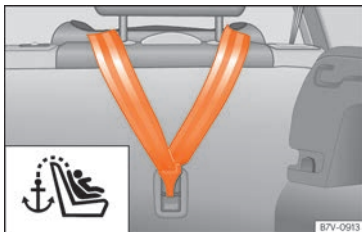

Fig. 31 Back of the rear seats: Top Tether securing rings.
Child seats with a Top Tether system are fitted with an additional strap for fastening to an anchor point in the vehicle. This anchor point is located on the rear of the rear seat backrest » **Fig. 31** and provides better retention.
- Slide the strap and secure it properly with the anchorage of the backrest » **Fig. 31**.